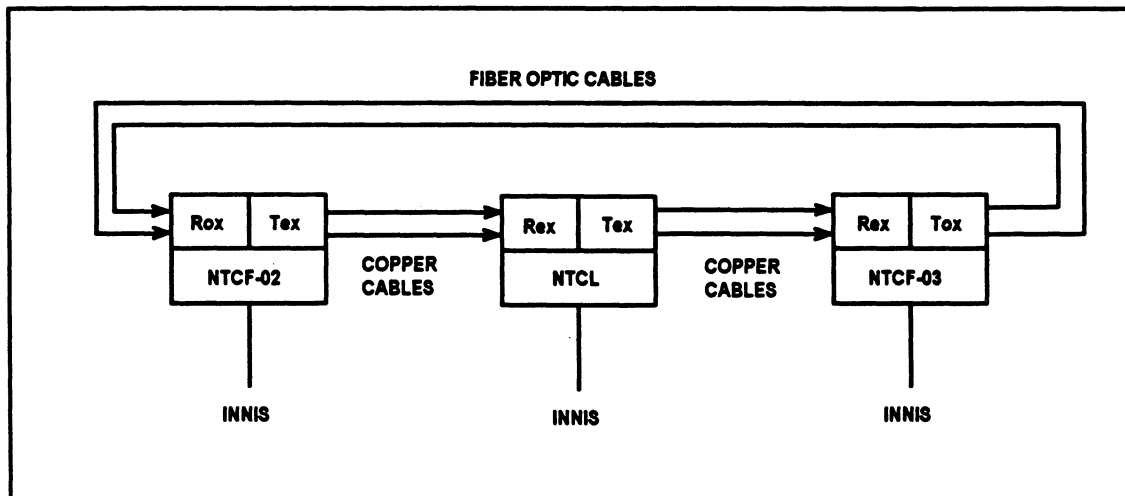

Figure 1-2. Mixed fiber-coaxial-twinaxial connection.
- Therefore, it will be possible to create a mixed fiber-coaxial-twinaxial ring as shown in Figure 1-2.